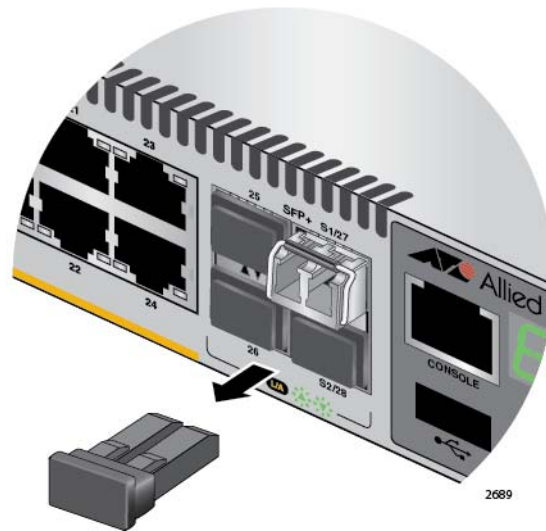

Figure 36. Removing the Dust Cover from a Stacking Transceiver
4. Remove the dust cover from the transceiver, as shown in Figure 36 on page 77.